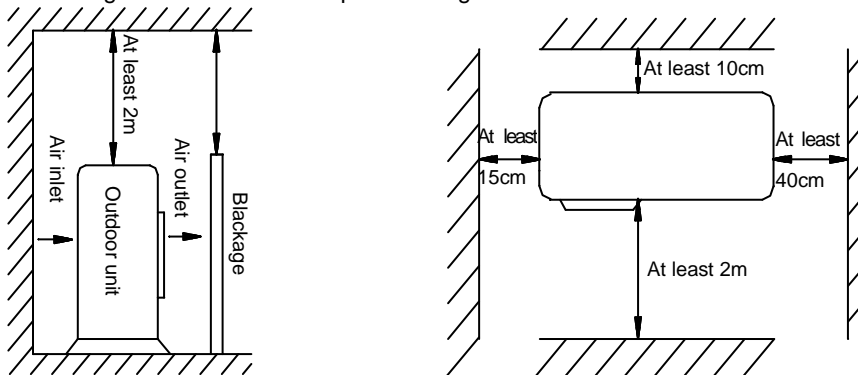

Fig.2
- The installing distance must be required as Fig. 2 shows.